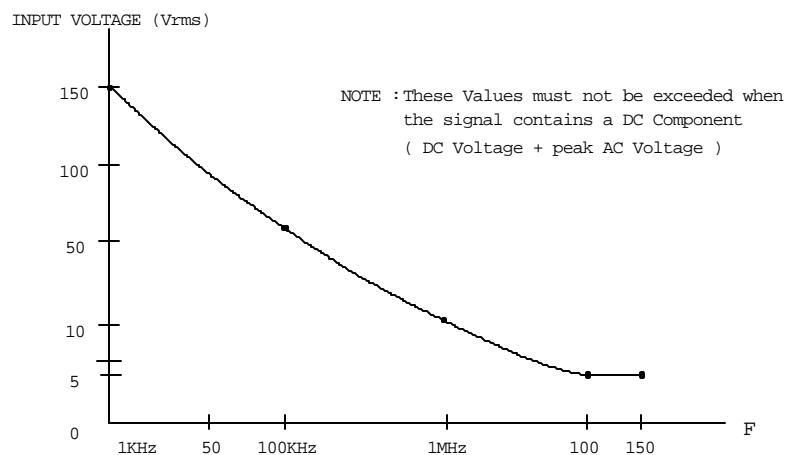

Fig. 6. Maximum Input Voltage-Frequency
- 1) When the impedance is $1M$, the maximum voltage applied to the input depends on the frequency and the position of the SENSITIVITY switch. This relationship is shown in Fig. 6, and the values given in this table must be strictly observed. Initially set SENSITIVITY to 1/10, if the counter doesn't count, set the switch to 1/1 range and then perform measurement. This procedure will reduce the danger of damaging the input circuit.